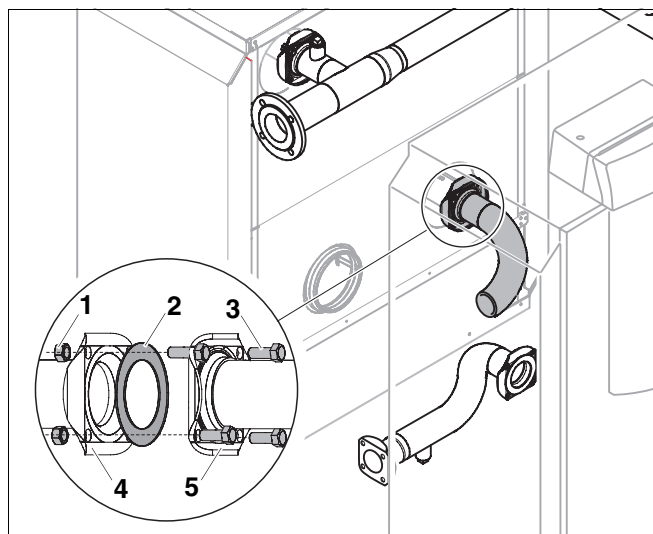

Fig. 10 Fitting return piece onto the second boiler
- Place gasket (Fig. 10, **Item 2**) on the return of the second boiler.
- Screw return piece flange (Fig. 10, **Item 5**) onto the return flange (Fig. 10, **Item 4**) on the second boiler, using four bolts (Fig. 10, **Item 3**) and nuts (Fig. 10, **Item 1**).